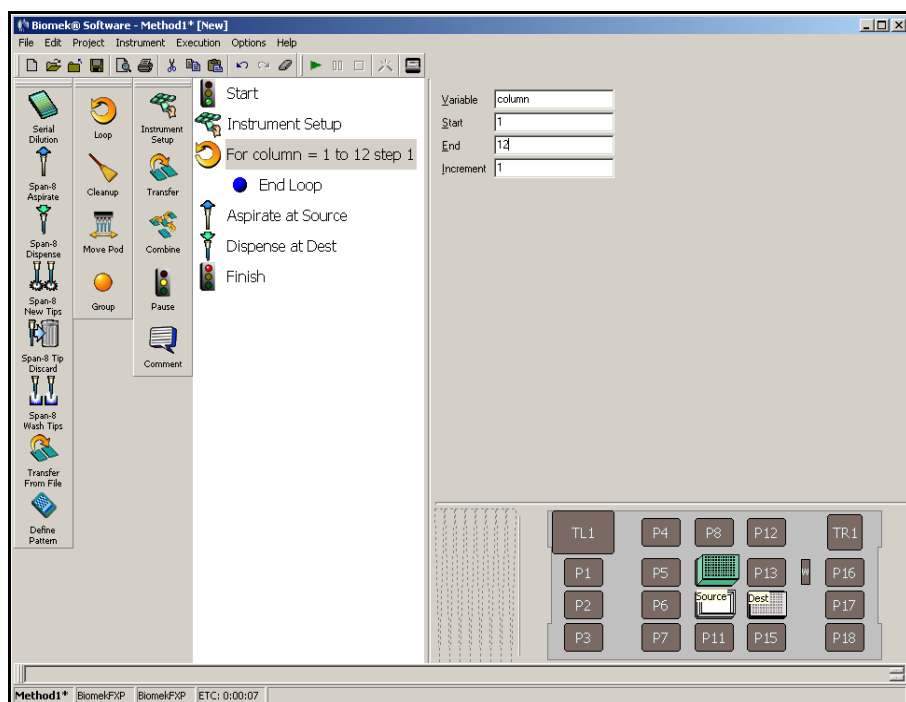

Figure 7-10. Loop step for repeating aspirate and dispense
- In **Increment**, enter **1**. The **Increment** value is how much the value for the variable *column* changes with each iteration of the **Loop**. Your **Loop** step configuration should look like Figure 7-10.